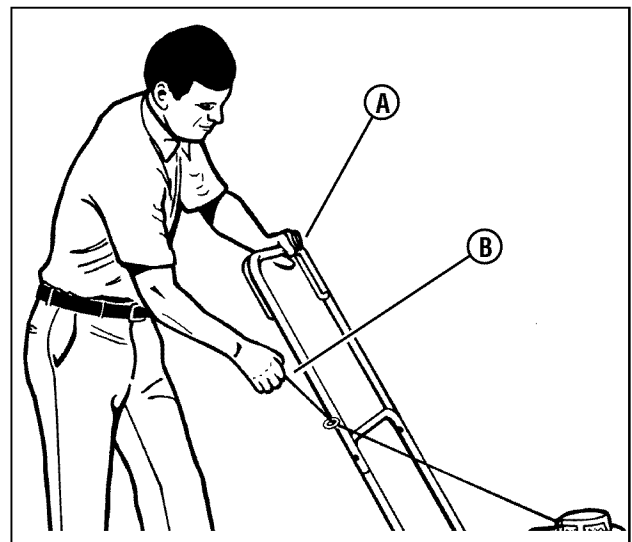

Figure 16: Starting the engine
6. Stand behind the mower. Use one hand to hold the engine stop lever in the operating position (**A, Figure 16**). Use the other hand to hold the recoil-start grip (**B**).